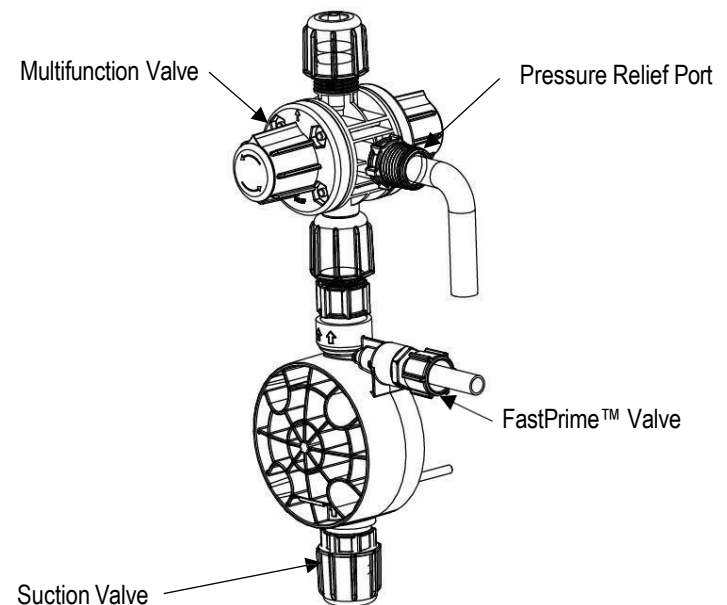

FIGURE 4
1. Connect pressure relief tubing to the pressure relief port (Figure 4). Route tubing to the solution tank. This tubing must not be submerged in the solution.
1. Connect the 3/8" outer diameter clear vinyl tubing provided with the pump to the FastPrime™ Valve barbed nozzle (Figure 4). Route tubing to the solution tank. This tubing must not be submerged in